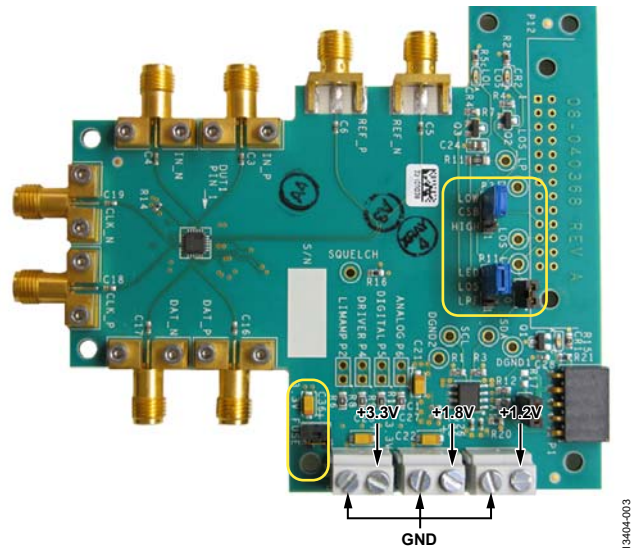

Figure 3. Evaluation Board, Jumper P14, Jumper P10, Jumper P11, Jumper P3 (Marked in Yellow), and Supply Rails
2. Connect supply rails (shown in Figure 3) to the evaluation board as follows: